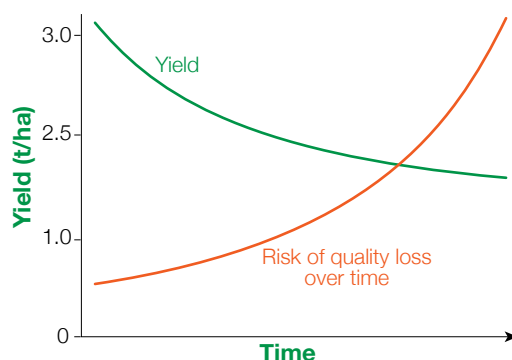

Figure 2: Yield loss and risk of quality loss over time
Every day a harvestable crop stands in the paddock, it is exposed to ongoing yield loss and quality degradation (Figure 2). Yield is reduced by shedding, head loss and general exposure to the elements. This is measured as a loss of yield each day in dry matter (DM). Research on this topic in the 1980s at Esperance by M Bolland and J Richardson (from the then Western Australian Department of Agriculture) revealed daily DM losses for wheat of 0.18–0.53% and for barley of 0.25–0.75% (depending on the season and distance from the ocean).